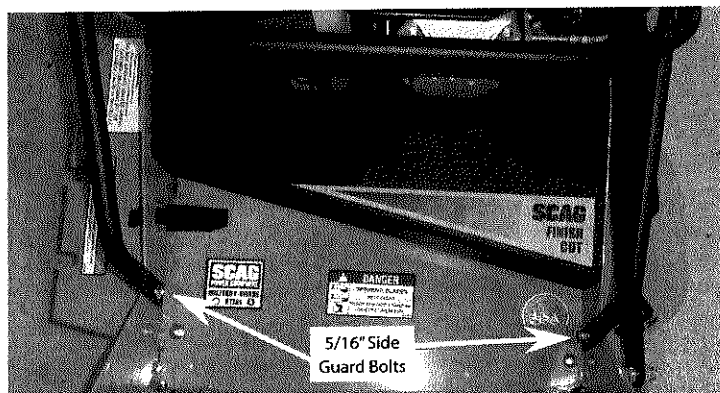

Figure 5
8. Remove the 5/16" elastic stop nuts and bolts at the bottom of the right and left side guard brackets located at the front of the unit. Discard hardware. See Figure 5.